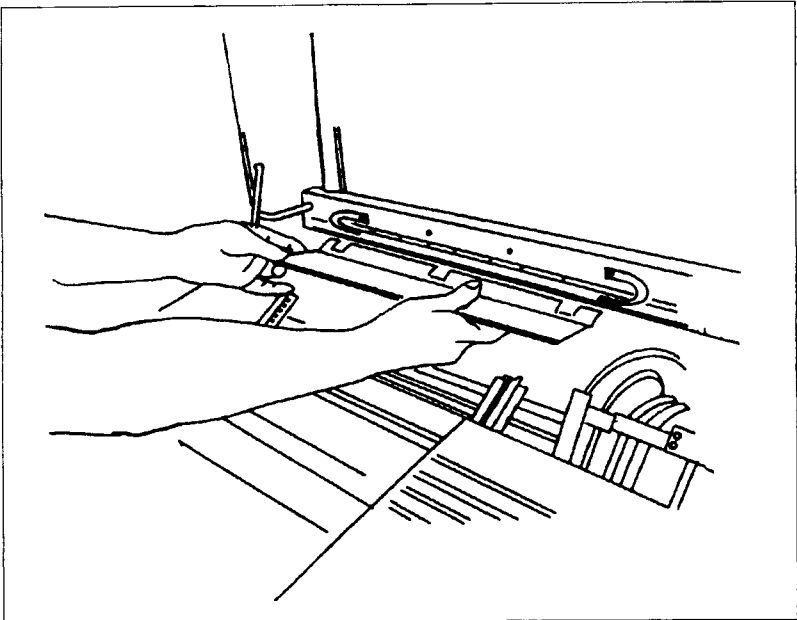

Figure 2-17. Installing the Paper Shield
- p. Open the printer top cover and slide the paper shield into its mate at the paper discharge frame (Figure 2-17). (The small tabs should be on top.) Push firmly into place.